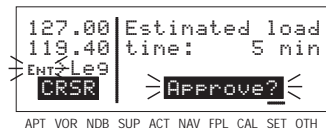

Figure 2-4
6. Press **[ENT]**. The estimated load time in minutes is now displayed (figure 2-4).